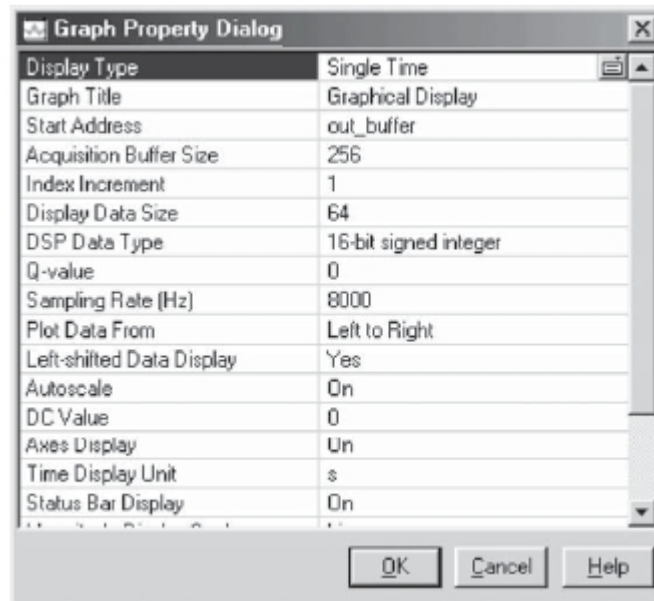

Figure 3: Time domain graph property dialog
1. Select View→Graph→Time/Frequency. Change the Graph Property Dialog so that the options are as indicated in figure 3. The starting address of the output buffer is **out\_buffer**. The other options can be left as default.